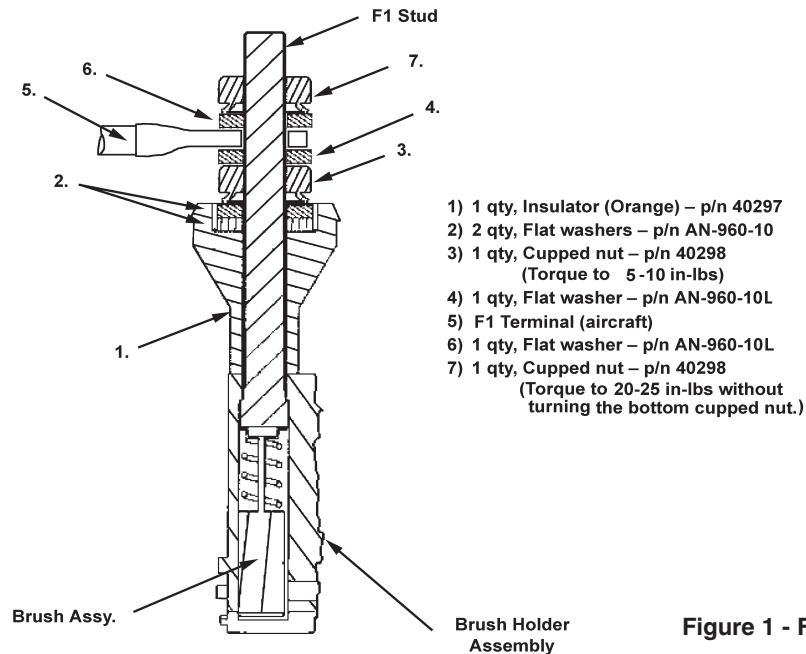

Figure 1 - F1 Terminal
4. Install the orange insulator (1) and two flat washers (2). Install cupped nut (3) and torque to 5 - 10 inch-pound. (0.56 - 1.12 N-m) Refer to Figure 1.
5. Install flat washer (4), aircraft field "F1" terminal (5) and flat washer (6). Install cupped nut (7) and torque to 20 - 25 inch-pound. (2.26 - 2.83 N-m) **It is imperative that the bottom cupped nut be held in place while the top cupped nut is being torqued to prevent damage or under torque. (Use a wrench of no more than .25 in. thickness on bottom nut.)** Refer to Figure 1.